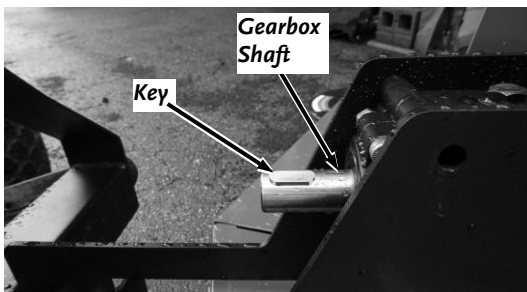

Figure 16
2. Insert the Key into the Trimmer Gearbox Shaft (**Figure 16**).